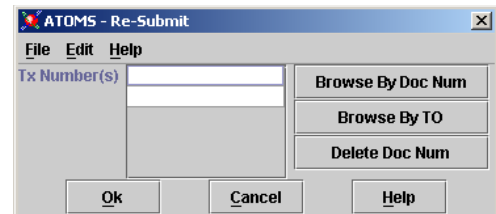

Figure 5-12. Re-Submit Window
- 1) From the splash screen, select **Order, Re-Submit**. The Re-Submit window appears (Fig. 5-12).